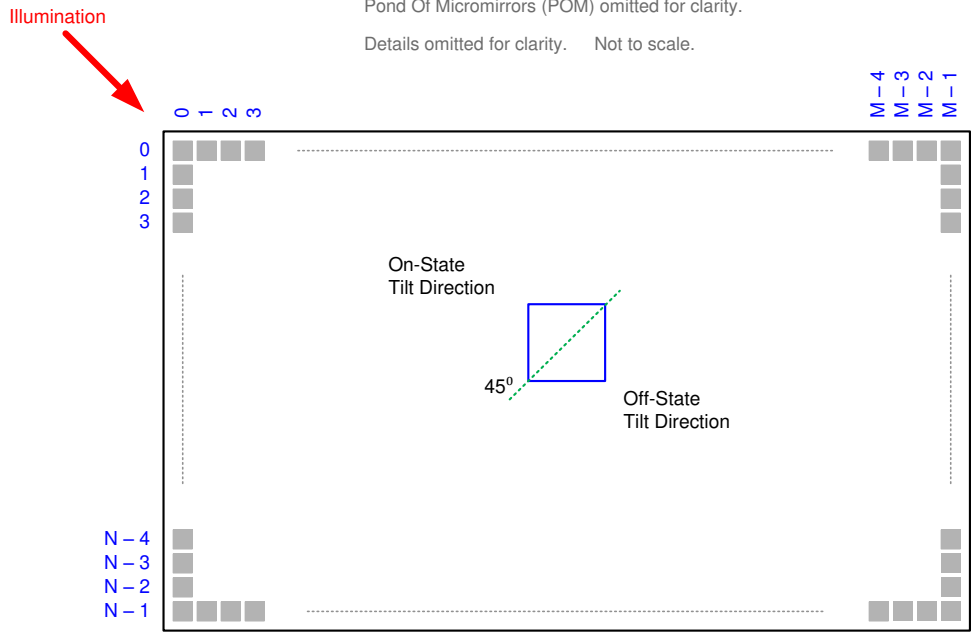

Figure 5-9. Micromirror Landed Orientation and Tilt
- (1) Measured relative to the plane formed by the overall micromirror array.
- (2) Additional variation exists between the micromirror array and the package datums.
- (3) This represents the variation that can occur between any two individual micromirrors, located on the same device or located on different devices.
- (4) For some applications it is critical to account for the micromirror tilt angle variation in the overall system optical design. With some system optical designs the micromirror tilt angle variations within a device may result in perceivable non-uniformities in the light field reflected from the micromirror array. With some system optical designs the micromirror tilt angle variation between devices may result in colorimetry variations, system efficiency variations, or system contrast variations.
- (5) See figure Figure 5-9.
- (6) Conditions of acceptance. All DMD image performance returns are evaluated using the following projected image test conditions:
- (7) Bright pixel definition: a single pixel or mirror that is stuck in the ON position and is visibly brighter than the surrounding pixels.
- (8) Dark pixel definition: a single pixel or mirror that is stuck in the OFF position and is visibly darker than the surrounding pixels.
- (9) POM definition: The rectangular border of off-state mirrors surrounding the active area.